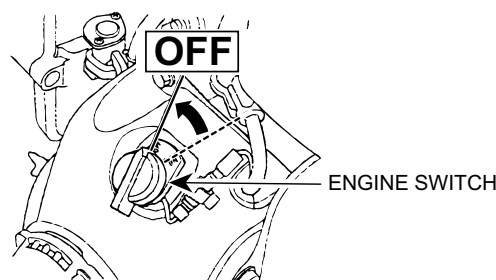

Figure 20. ON/OFF Switch (OFF Position)
13. After the engine cools, turn the engine ON/OFF switch to the "OFF" position (Figure 20).